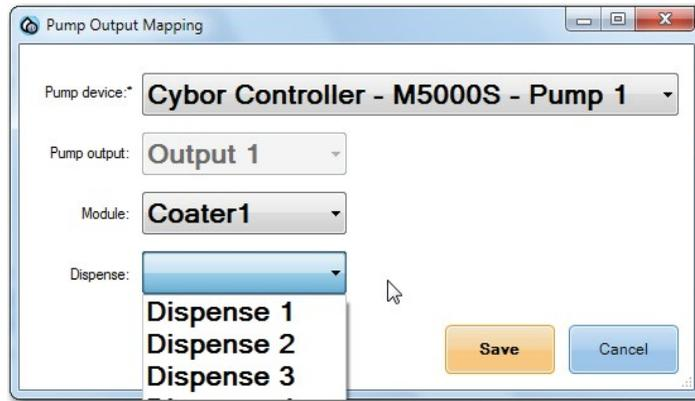

FIGURE 4-13: Selecting a Dispense.
4. Select a dispense. See Figure 4-13.